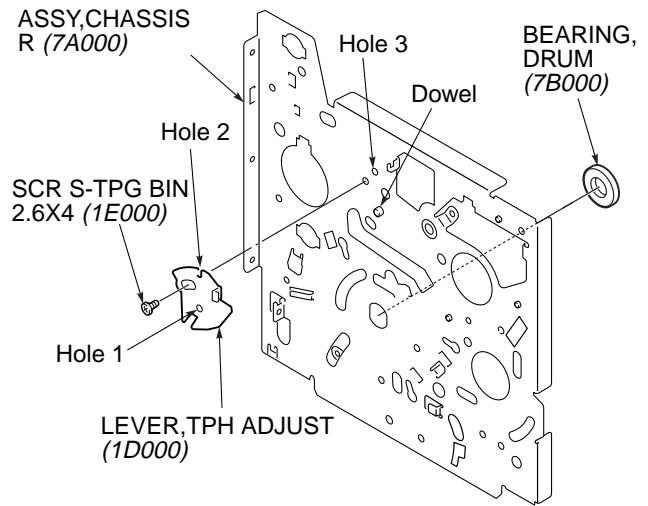

Fig. 3-17-1
3-17. "LEVER,TPH ADJUST (1D000)", "BEARING,DRUM (7D000)", and "BEARING,DRUM (7B000)" (See Figs. 3-17-1 to 3-17-2)
- 1) When removing the "BEARING,DRUM (7B000)" or the "LEVER,TPH ADJUST (1D000)" on the "ASSY,CHASSIS R (7A000)" side, refer to section 3-14 and remove the "ASSY,CHASSIS R (7A000)". (Refer to Fig. 3-17-1.)
- 3) Remove the two "SCR S-TPG BIN 2.6X4 (1E000)". (Refer to Fig. 3-17-1 and Fig. 3-17-2.)
- 4) Remove the "LEVER,TPH ADJUST (1D000)". (Refer to Fig. 3-17-1 and Fig. 3-17-2.)
- 6) Remove the "BEARING,DRUM (7B000)". (Refer to Fig. 3-17-1.)
1. Align hole 1 on the "LEVER,TPH ADJUST (1D000)" with the dowel on the "ASSY,CHASSIS R (7A000)" or the "ASSY,CHASSIS L (7C000)". (Refer to Fig. 3-17-1 and Fig. 3-17-2.)
2. Align hole 2 on the "LEVER,TPH ADJUST (1D000)" with hole 3 on the "ASSY,CHASSIS R (7A000)" or the "ASSY,CHASSIS L (7C000)". (Refer to Fig. 3-17-1 and Fig. 3-17-2.)